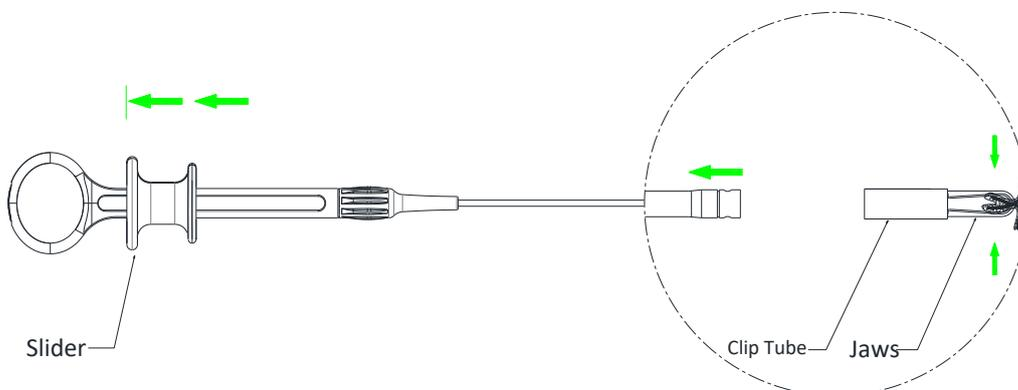

Figure 5: The Clip Permanently Deployed
7. To permanently deploy the clip, continue moving the Slider toward the Thumb Ring beyond the tactile resistance point, at this point a first click may be heard or felt. Continue moving the Slider toward the Thumb Ring until a second tactile resistance point and/or click is heard or felt. Continue moving the Slider until it reaches the Thumb Ring, as shown in Figure 5.